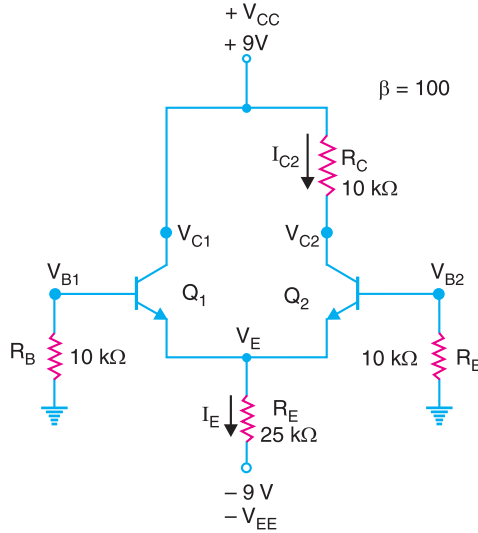

Fig. 25.98
- Find bias voltages and currents for the differential amplifier circuit in Fig. 25.98.